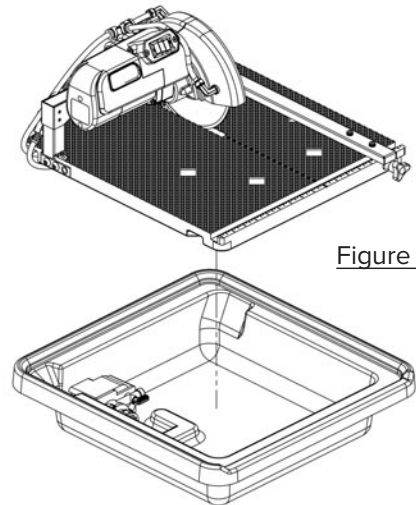

Figure 4
3. Replace the saw back into the tray. (see figure 4)